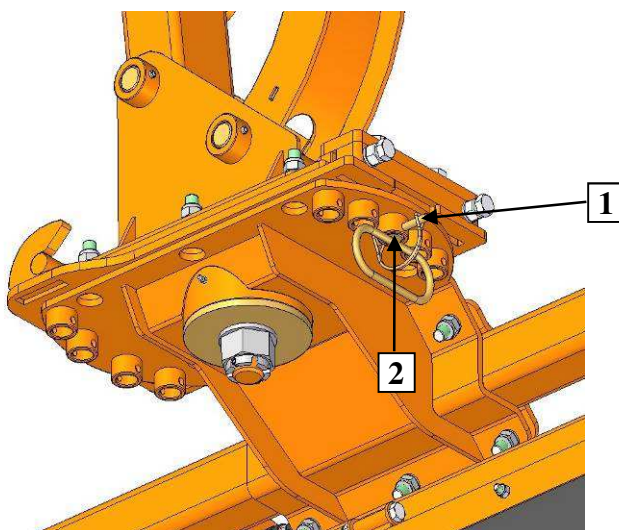

Fig. 49. Rotary mounting
- ❑ remove safety cotter (1) (**Fig. 49**),
- ❑ remove locking pin (2),